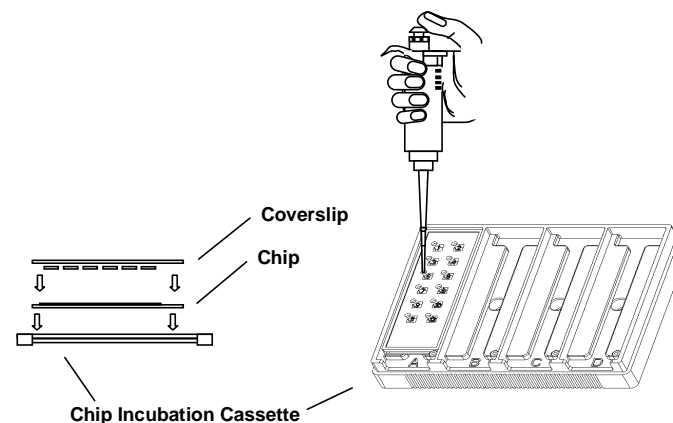

Figure 2. Schematic Diagram of Solution Addition
- 8.2.2 Determine the total number of chips needed and remove the appropriate number of chips from the package. Place the chips into the incubation cassette with the barcoded-side facing up and the barcode towards the operator. Place one coverslip on top of each of the chips with the sign “R→” down-right (**Figure 2**);
- 8.2.3 Pipette 20  $\mu$ l of blocking buffer through the injection hole vertically (**Figure 2**). Avoid forming bubbles. Cover the cassette and incubate at 37°C for at least 30 min. Reaction times longer than 3 h are not recommended.